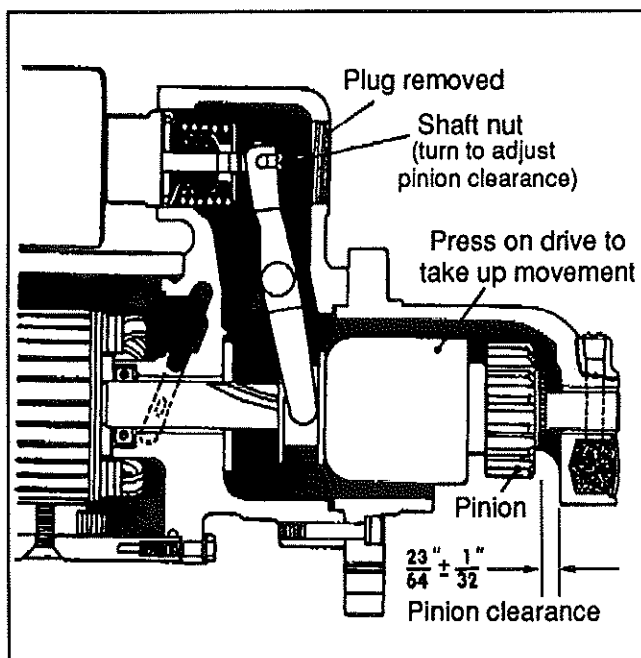

Fig. 40
Pinion clearance should be checked after reassembly of motor to ensure the clearance is within specifications. To check pinion clearance (starting motor off engine), first disconnect the motor field connector from the solenoid motor terminal. Connect 24 volt battery with the positive battery lead to the solenoid switch terminal (5), and the negative battery lead to the grounded (G) solenoid terminal. Momentarily flash a jumper lead from the solenoid motor terminal to the grounded (G) solenoid terminal. The pinion gear will now shift into cranking position and remain so until the battery is disconnected. Push the pinion or drive back towards the commutator end to eliminate slack movement. Measure the distance between pinion and pinion stop. This should be $23/64" \pm 1/32"$ (9,5 mm \pm 0,79 mm). Pinion clearance is adjusted to these limits by turning the solenoid shaft nut after removing access plug in shift housing. See figure 40.